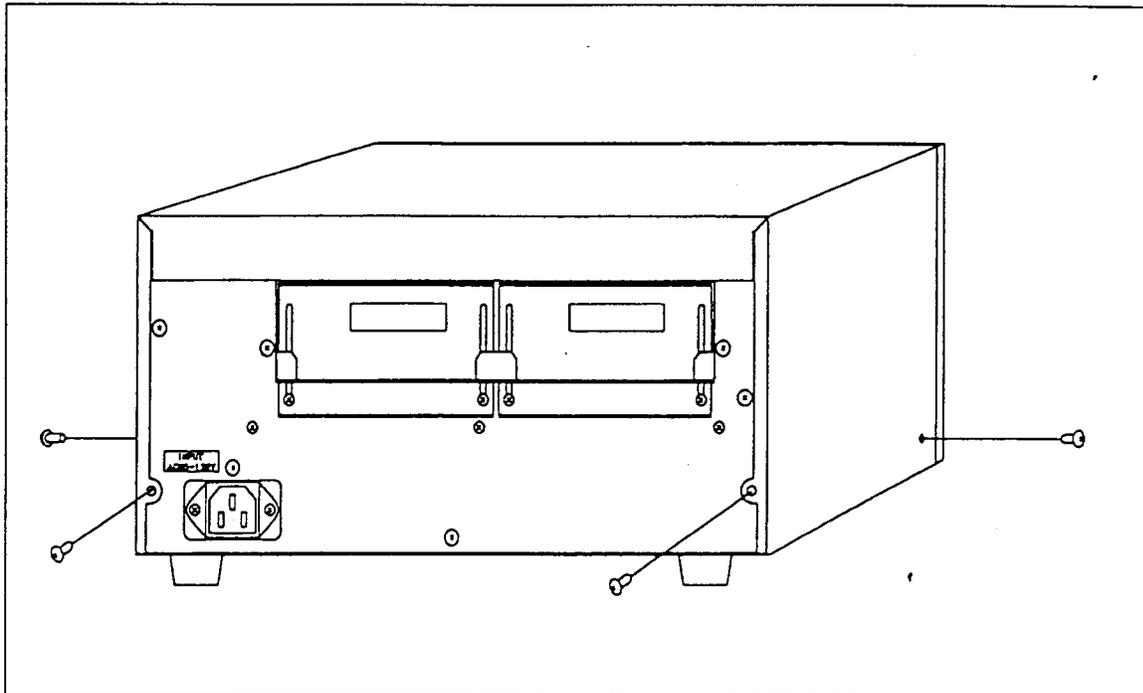

Figure 2.2 Removing the main cover on the Target Box
- (1) Make sure the power supplies of all peripheral devices connected to the Target Box are OFF.
- (2) Remove the main cover of the Target Box. There are four screws to be removed. See Figure 2.2.
- (1) Put the main cover on the frame and tighten the four screws. See Figure 2.2.